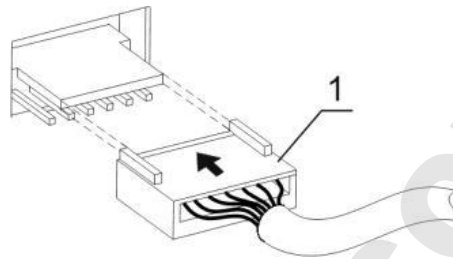

Fig.1 Thermo-block connection
- Remove the four knurled screws (fig.2/1), disconnect the plug (fig.1/1).